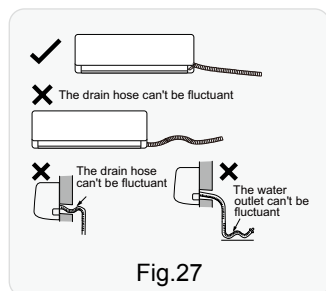

Fig.27
- Slant the drain hose slightly downwards. The drain hose cant be curved, raised and fluctuant, etc.(As show in Fig.27)